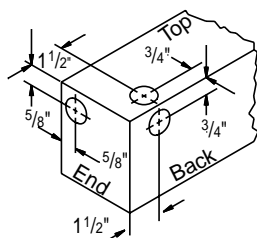

Figure 9
- 4 If not already factory drilled, drill exit hole for electrical lead (see Fig. 9).